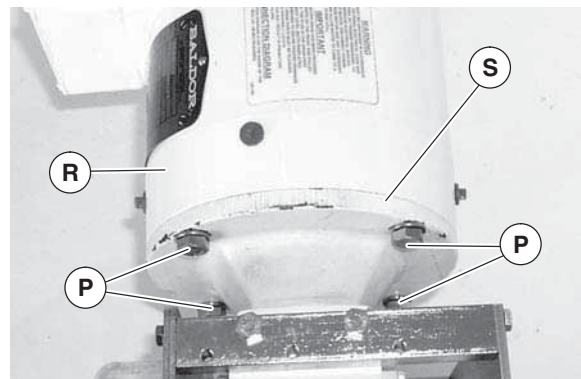

Figure 37
- Remove four screws and washers (Figure 37, item P). Remove motor (R) from gear reducer (S).